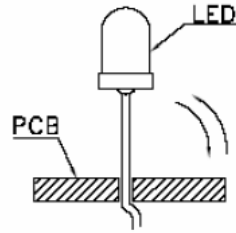

Fig. 8
- Do not bend the Leads more than twice. (Fig.8)